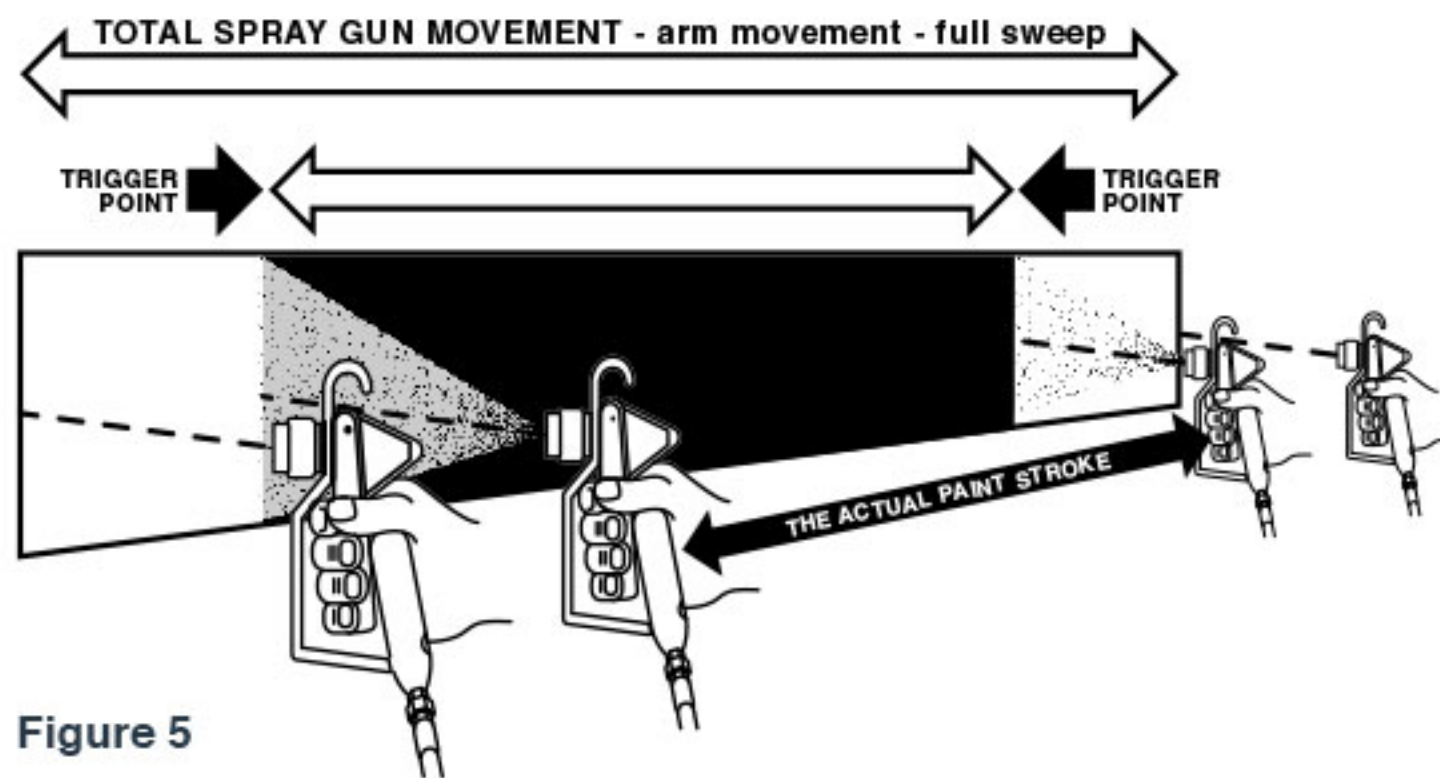

Figure 5
5. It is important to “trigger” the gun after gun movement (arm movement) has started and release the trigger (shut off) before gun movements ends. Gun movement is always longer than the actual (spray) stroke. This way paint thickness and blending occurs over the entire surface. (See Figure 5)